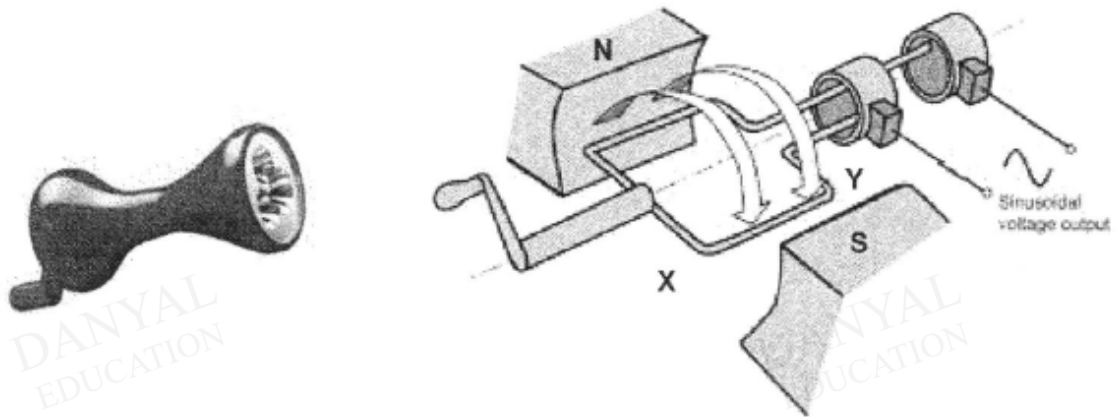

Fig 11.1
Fig 11.1 shows a torchlight that is lit when its handle is cranked by a hand
- (a) State the direction of the current flow in branch XY at the instant shown in Fig 11.1.